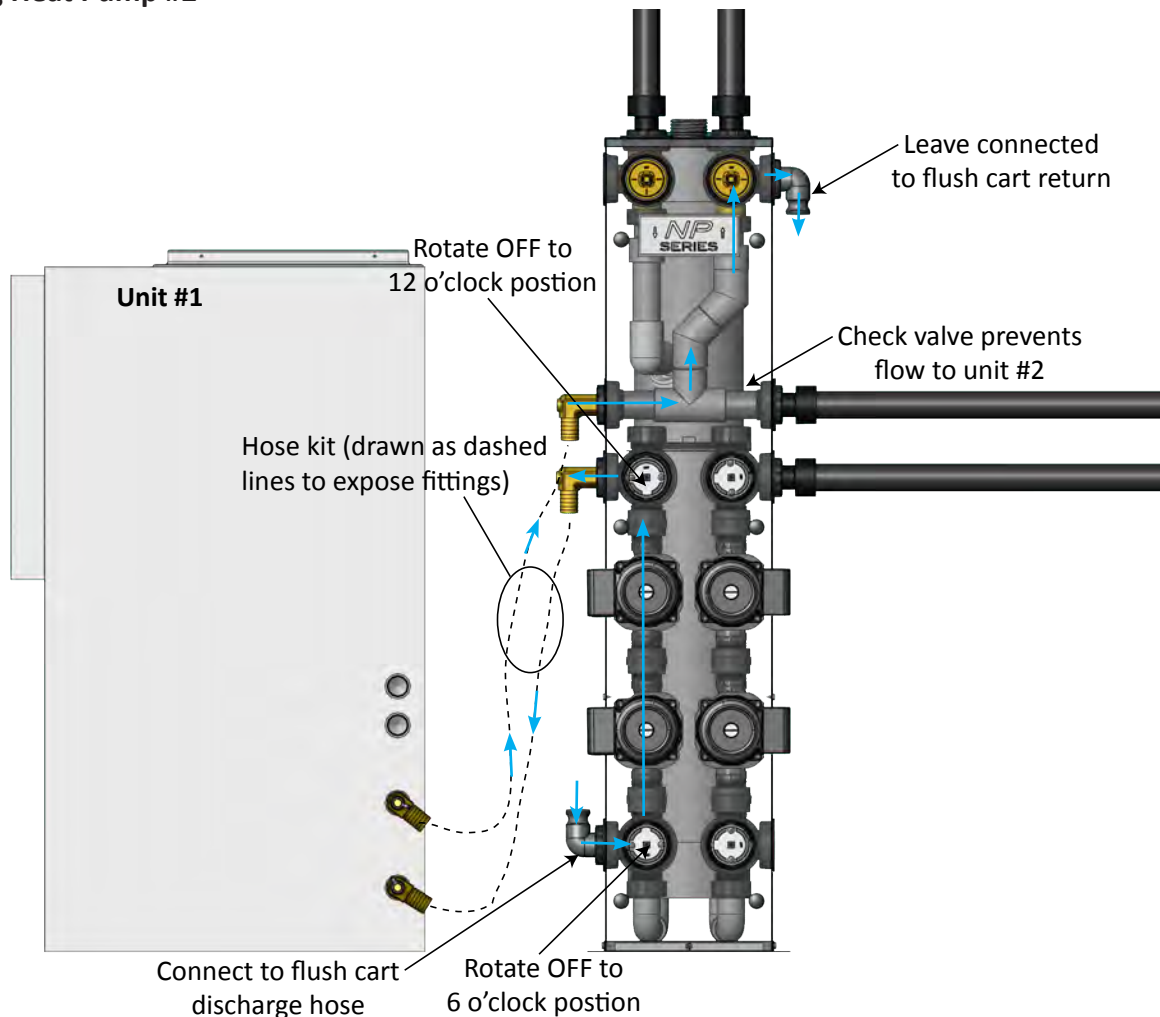

Figure 10: Flushing Heat Pump #1
2. Rotate OFF on the lower left valve to the 6 o'clock position to isolate the tank. Rotate OFF on the middle left valve to the 12 o'clock position to open flow to heat pump #1. Be sure the upper valves are rotated to isolate the ground loop (OFF in 12 o'clock position if ground loop is plumbed to top ports). See Figure 10.